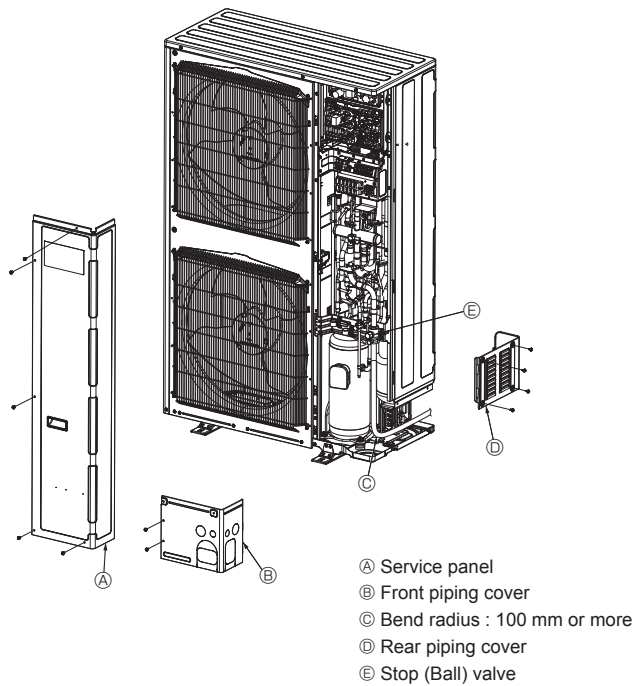

Fig. 4-10
4.4. Refrigerant piping (Fig. 4-10)